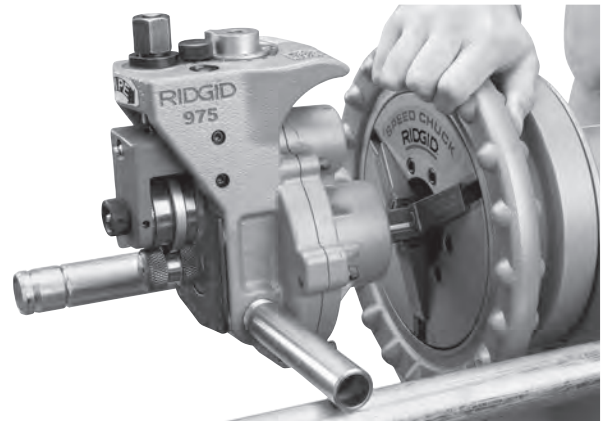

Figure 3 – Mounting 975 Combo Roll Groover Into 300 Power Drive Chuck
2. Place the support arms of the roll groover onto the support arms of the power drive and the end of the roll groover driveshaft in the chuck of the machine. Close and tighten the power drive chuck onto the flats of the driveshaft. Make sure that the driveshaft is centered in the chuck. Use repeated and forceful counterclockwise spins of the speed chuck hammer-wheel to securely grip the driveshaft (*Figure 3*).